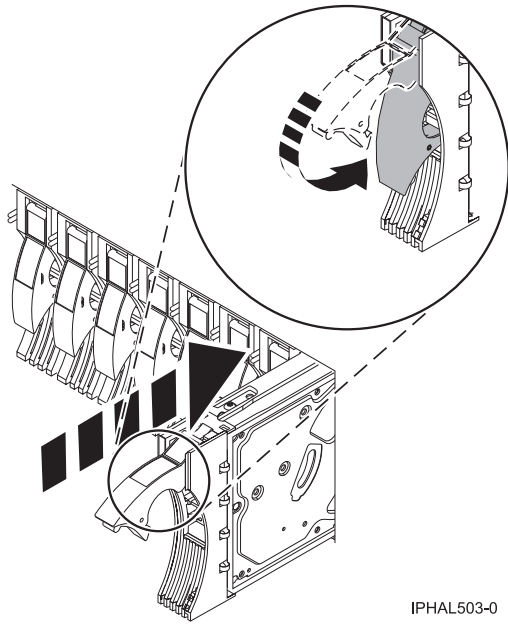

Figure 102. Installing a disk drive in a model a model or 7311-D20
- c. Push the disk drive handle in until it locks, as shown in Figure 102 on page 123.